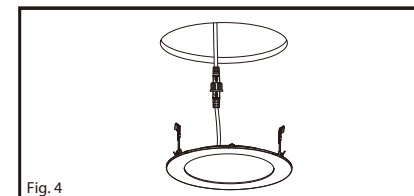

Fig. 4
7. Pull the spring clips on the fixture up and through the cut-out. Spring clips should close above the ceiling and secure recessed LED panel in place. (Fig. 4)